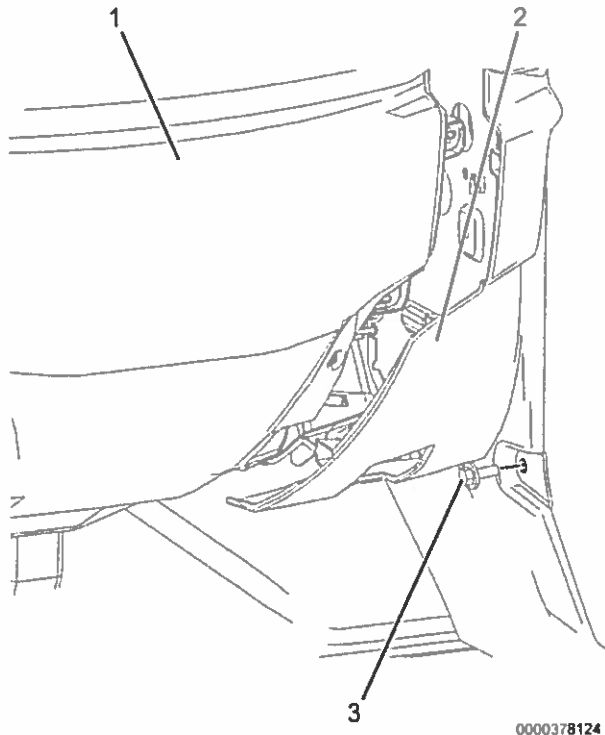

Figure 1. Floor Duct Trim Panel.
- 7. Remove bolt (Figure 1, Item 3) from floor duct trim panel (Figure 1, Item 2).
- 8. Using fiber stick or equivalent, disengage locking clips securing passenger floor duct trim panel to HVAC housing trim panel (Figure 1, Item 1).